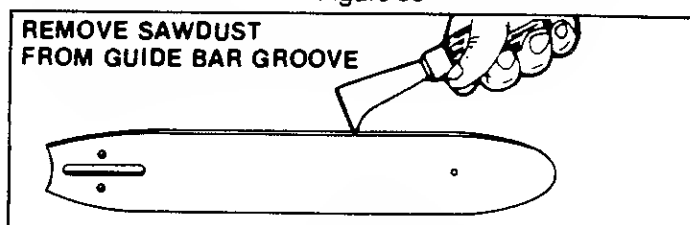

Figure 36
- Remove sawdust from the guide bar groove periodically with a putty knife or a wire. Figure 36.